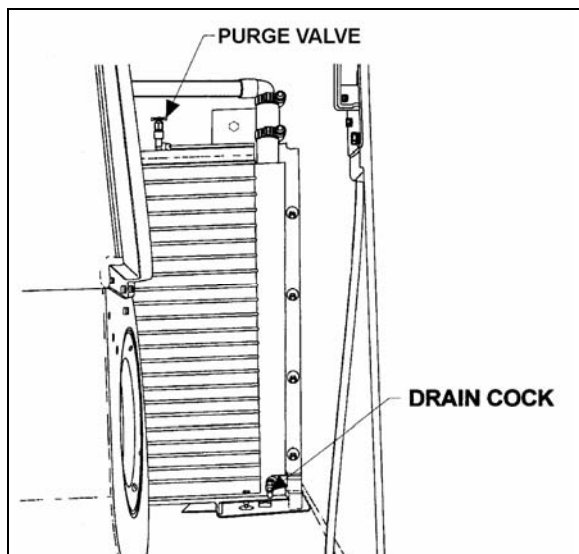

FIGURE 43: PASSENGER'S UNIT HEATER CORE (H3 COACHES)
4. Open drain cock in bottom of heater core, then open purge valve located on top of heater core (figure 43) in order to allow air to enter while draining.